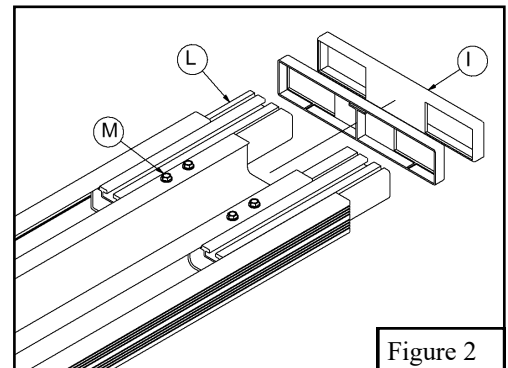
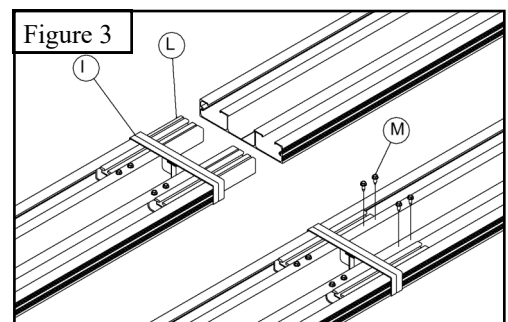

Figure 2
Figure 3
4. Slide two *Seat Connector Caps* (I) back to back over the *Seat Connector Tubes* (L). See Figure 2.
**NOTE:** These two *Seat Connector Caps* (I) may be replaced in the future by a single double-sided *Seat Connector Cap* (I)
5. Position, then adjust plank tightly against the mating plank and install two #14 X 3/4" *Self Drilling/Threading Hex Screws* (M) through the mating plank and into each *Seat Connector Tube* (L). See Figure 3.